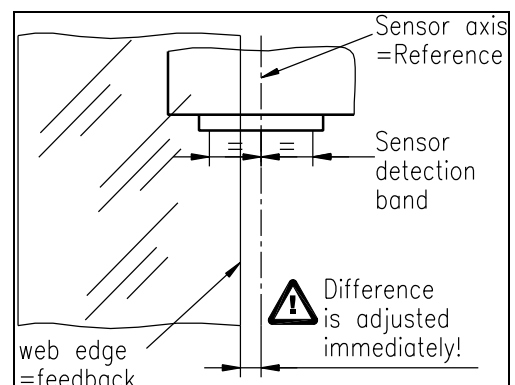

Fig. 18: Position at automatic start K
- Start automatic mode with  key or digital input. Reference position is taken from the middle of the sensor detection band (**Fig. 18**). Using center guide, reference position is in the middle between the 2 sensor axis. The controller starts to guide the web to reference position and to hold this guide point.